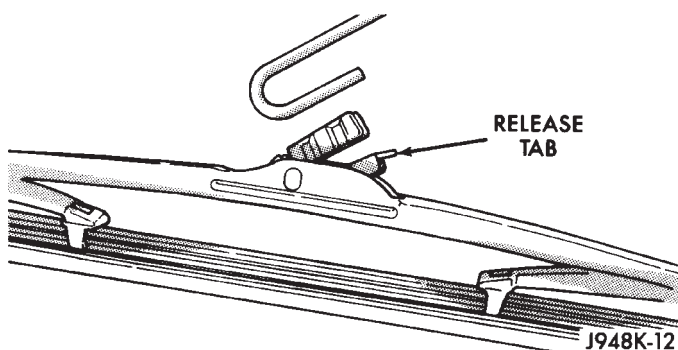

Fig. 6 Wiper Blade Remove/Install - Typical
(1) Lift the wiper arm to raise the wiper blade and element off of the windshield glass.
(2) To remove the wiper blade from the wiper arm, push the release tab under the arm tip and slide the blade away from the tip towards the pivot end of the arm (Fig. 6).
(1) Lift the rear wiper arm to raise the wiper blade and element off of the rear liftglass.
(2) To remove the wiper blade from the wiper arm, push the release tab under the arm tip and slide the blade away from the tip towards the rear wiper motor output shaft end of the arm (Fig. 6).
(3) To install the wiper blade on the wiper arm, slide the blade retainer into the U-shaped formation on the tip of the wiper arm until the release tab snaps into its locked position. Be certain that the notched retainer for the wiper element is oriented towards the end of the wiper blade that is nearest to the rear wiper motor output shaft.